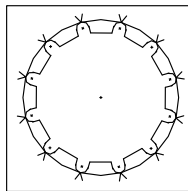

Figure 24D
4. Use a sabre saw to cut along the *inside* circle, between the 7/8" [22 mm] holes. See **Figure 24D**.